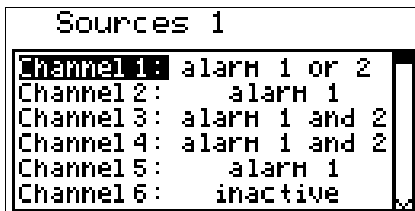

Fig. 7.24. Submenu **"Source"** in menu **„Outputs settings"**.
- "Source"** - brings up a submenu with alarm sources settings (Fig. 7.24). The following options are available for each channel: